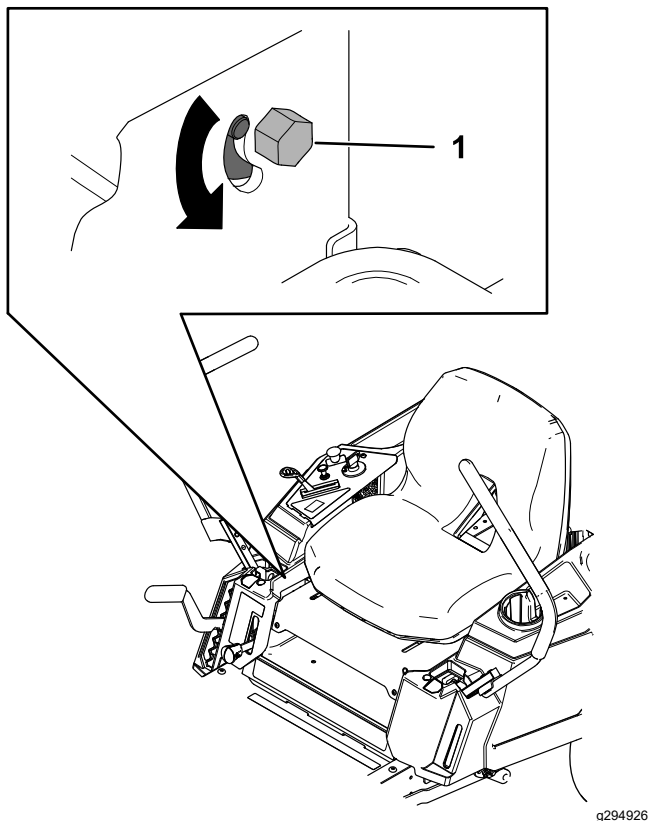

Figure 55
3. Locate the tracking-adjustment bolt near the motion-control lever on the particular side that needs adjusting (Figure 55).